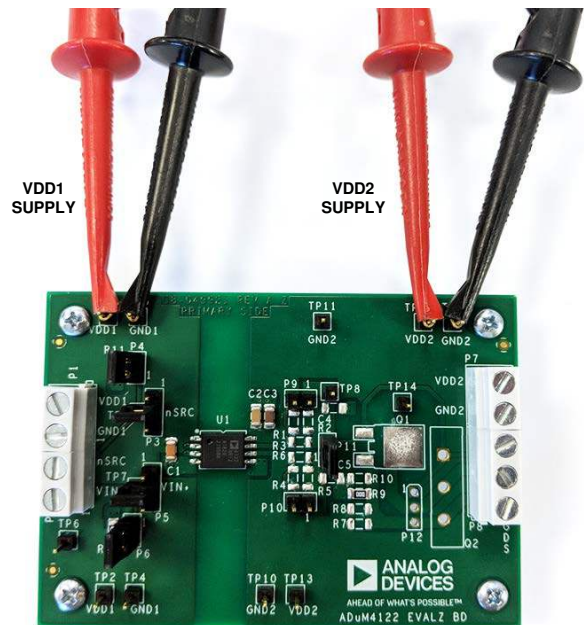

Figure 7. Power Supply Connections
1. Connect the input V_{DD1} supply (3.3 V to 5.5 V) to the V_{DD1} and GND1 pins (see Figure 7).
2. Connect the input V_{DD2} supply (4.5 V to 35 V) to the V_{DD2} and GND2 pins (see Figure 7).